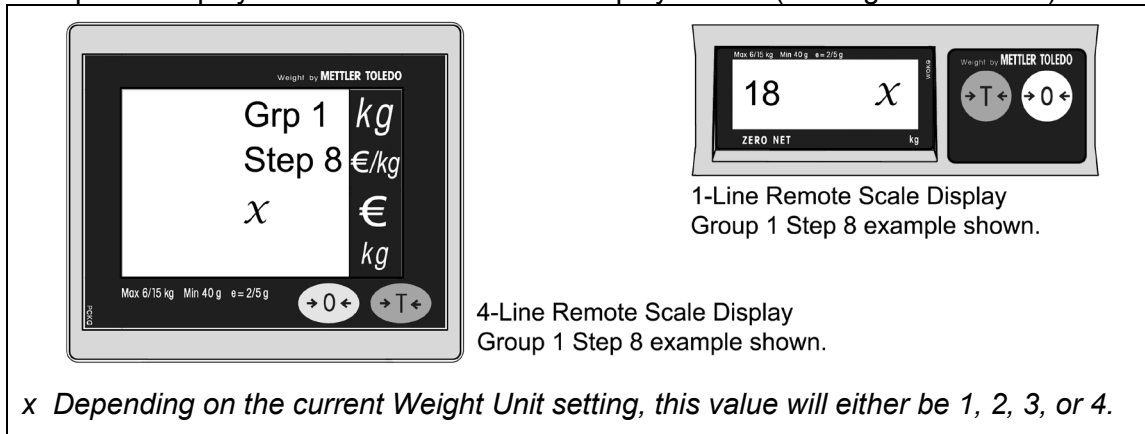

Figure 45. Remote Scale Display Group 1 Step 8 example shown
5. Go to Group 1 Step 8 (Weight Unit) of the Service Mode by pressing the Zero ( $\rightarrow 0 \leftarrow$ ) key several times until 'Group 1 Step 8' is displayed on the Remote Scale Display screen (see Figure 45 below).